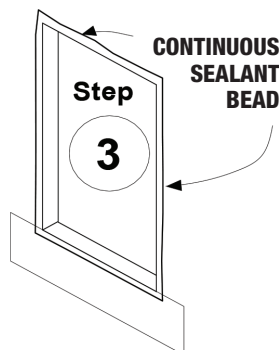

Figure 4 Apply perimeter sealant.
Step 3. Apply sealant around perimeter of the prepared rough opening or to backside of window fin at top, sides and bottom (see Figure 4).